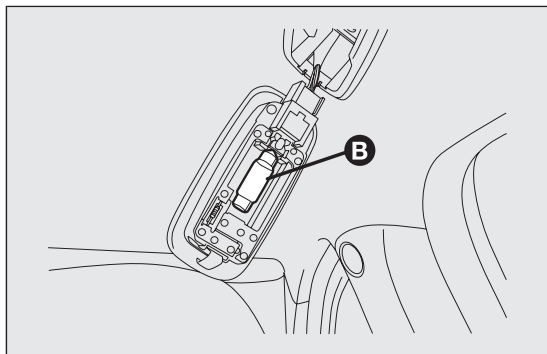

fig. 177
- ❑ replace bulb B fig. 177 releasing it from the side contacts and making sure the new bulb is correctly fastened between the contacts.